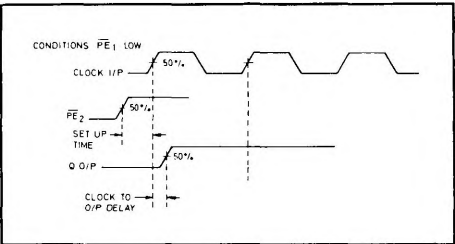

Fig. 3 Set-up timing diagram
5. Set-up time is defined as the minimum time that can elapse between a L $\rightarrow$ H transition of a control input and the next L $\rightarrow$ H clock pulse transition to ensure that the  $\pm 10$  mode is forced by that clock pulse (see Fig. 3).